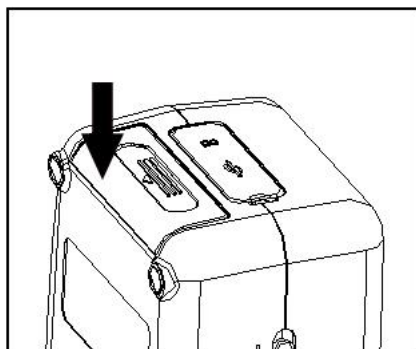

Figure4. Mounting the battery cover
3. Follow the directions on Figure 4, press up to mount the battery into the compartment.